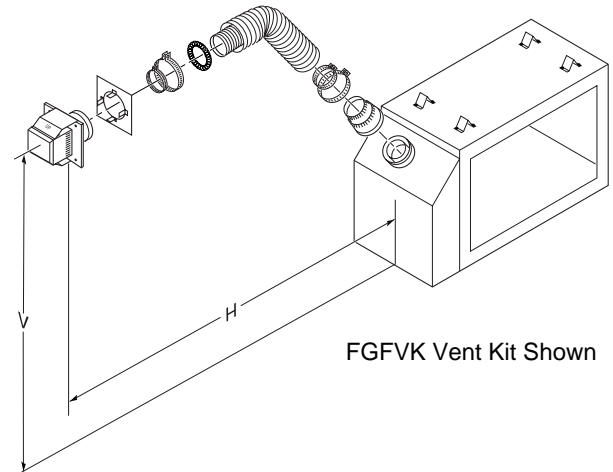

**Figure 18 - Horizontal Termination Configuration for Rigid Venting Using One 90° Elbow**
Figures 18 through 20 show different configurations for venting with horizontal termination. Each figure includes a chart with vertical minimum/maximum and horizontal maximum dimensions which must be met. All connections must be sealed with high temperature silicone sealant (outer pipe only) as specified in the second warning statement on page 6. All horizontal terminations require 1/4" rise per 12" of horizontal run.
See information in Figure 18 for Vertical (V) and Horizontal (H) maximums and minimums. The same amounts apply for flexible venting.